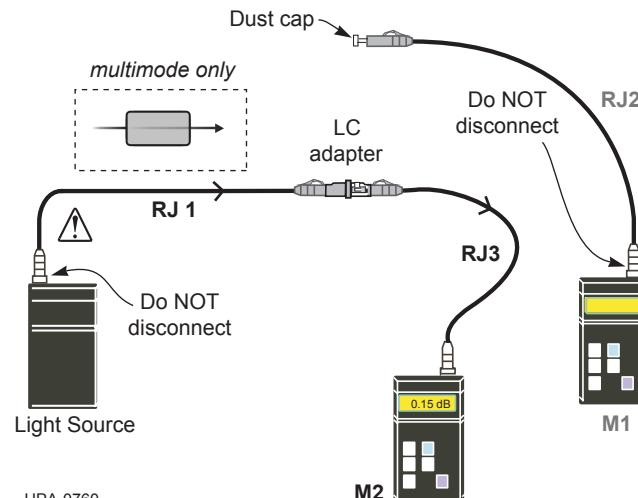

Figure 8
Step 9: Clean and install an LC to LC jumper-Reference Jumper no.3 (**RJ3**) into **M2** and the LC adapter (Figure 8).